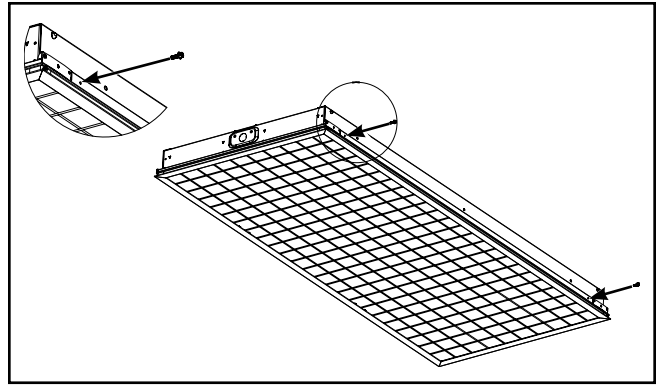

Figure 2.
2. After door frame is latched onto the fixture, use the 2 included screws to secure it to the housing. Use a 1/4" hex driver or flat head screw driver to thread each screw through the holes in the door frame latch rail next to the latches (see Figure 2).